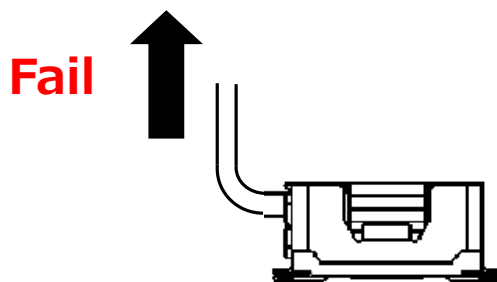

Fig. 14
- Do not pull up the cable to withdraw the plug connector as shown in Fig. 14.